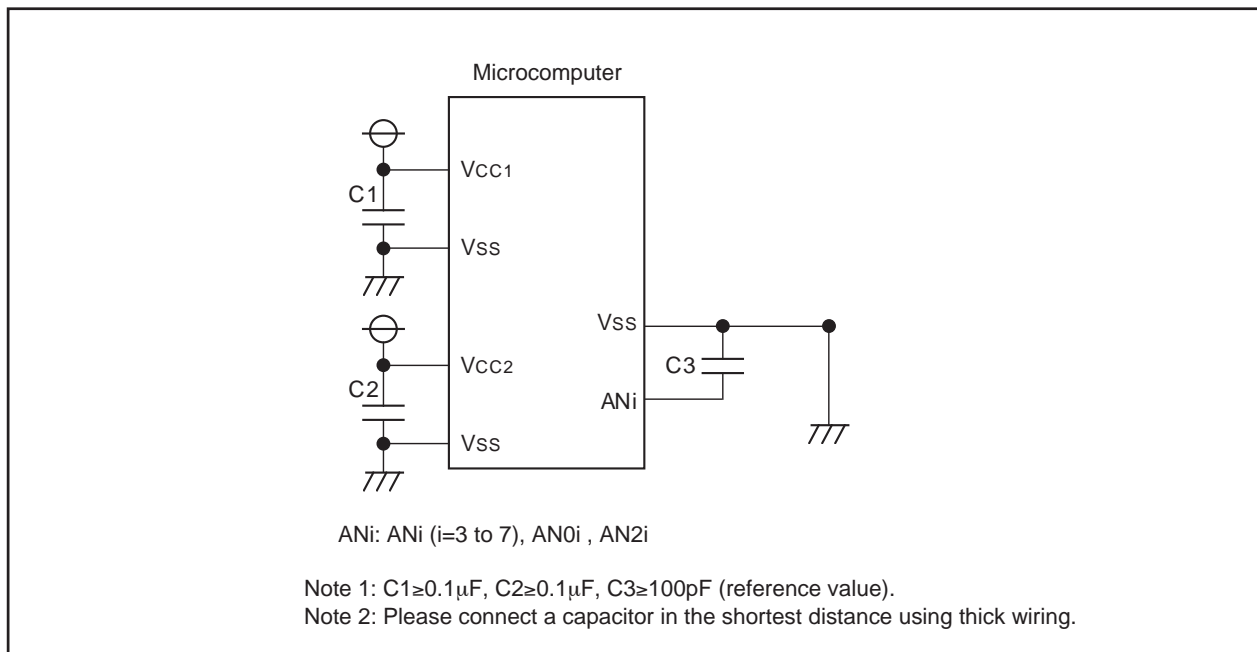

Figure 12.8. Example of noise measure processing of each pin
- (1) Please set to "0" (input mode) the direction bit of a port corresponding to the pin used as an analog input pin.
- (2) When you use key input interruption, please do not use all of pins AN4 to AN7 as an analog input pin (if A/D input voltage is set to "L", a key input interruption demand will occur).
- (3) In order to reduce prevention of incorrect operation and the latch rise by the noise, and a conversion error, please insert a capacitor, respectively between VCC1 pin, VCC2 pin, an analog input pin (ANi (i=3 to 7), AN0i, AN2i), and a VSS pin. The example of processing of each pin is shown in Fig.12.8.
- (4) A/D conversion is completed, and the mistaken value is stored in an ADi register when CPU reads an ADi register to the timing which stores the result in an ADi register (i=0 to 7). This phenomenon is generated when the clock which divided the main clock, or a sub clock is chosen as a CPU clock.